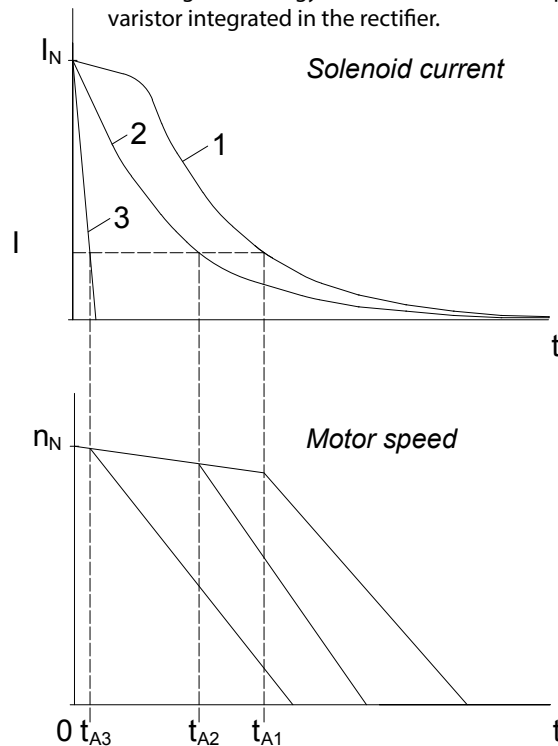

Figure 4: Idealized coil current and motor speed curves after switching off power on the AC side (1 and 2) or DC side (3)
- a) Rectifier powered from the motor terminal board (Figure 4, curve 1)
- b) Rectifier powered separately (Figure 4, curve 2)
Interrupting the DC circuit of the electromagnet coil (Figure 4, curve 3)